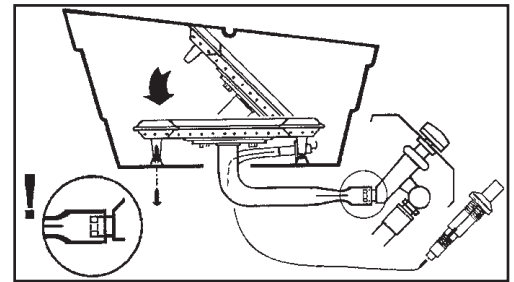

Fig. 8
4. Lower the burner into position in the grill housing, making sure that the venturi tubes are correctly aligned and fitted on the orifices. (Fig. 8)